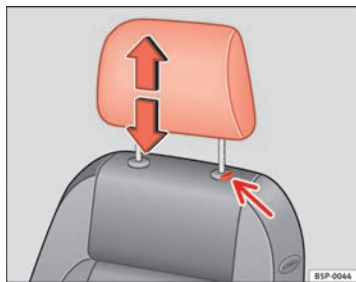

Fig. 67 Adjusting and removing the head restraints
- Press the button ⇒ fig. 67 (arrow).